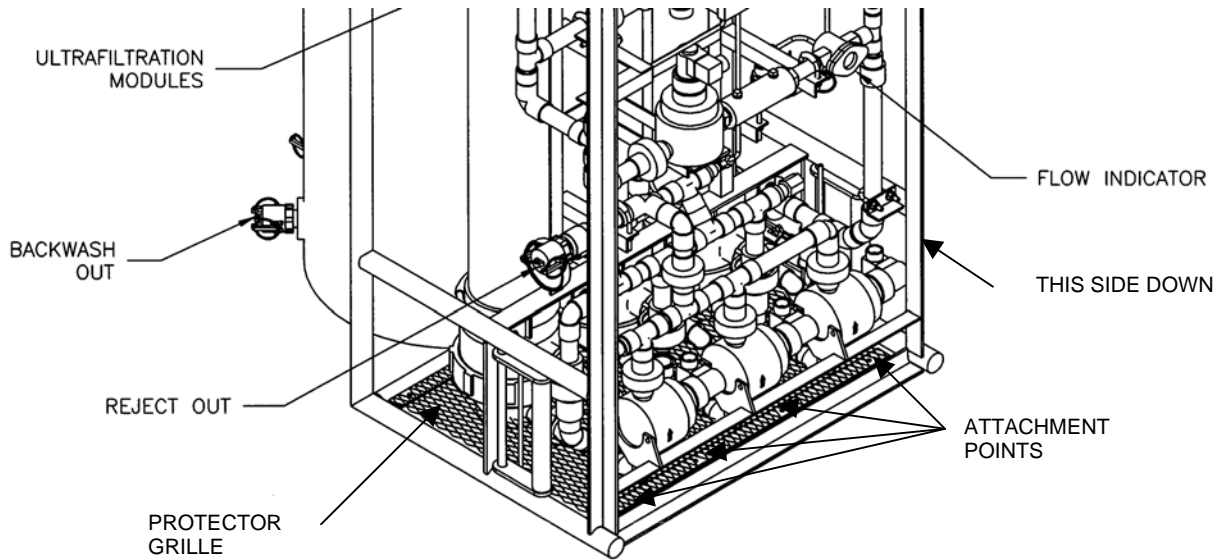

Figure 2. Protective Grille.
1. Position the UF module on its side to obtain access to the protective grille. Do not lay module on fabric filtrate tank T2. See Figure 2.